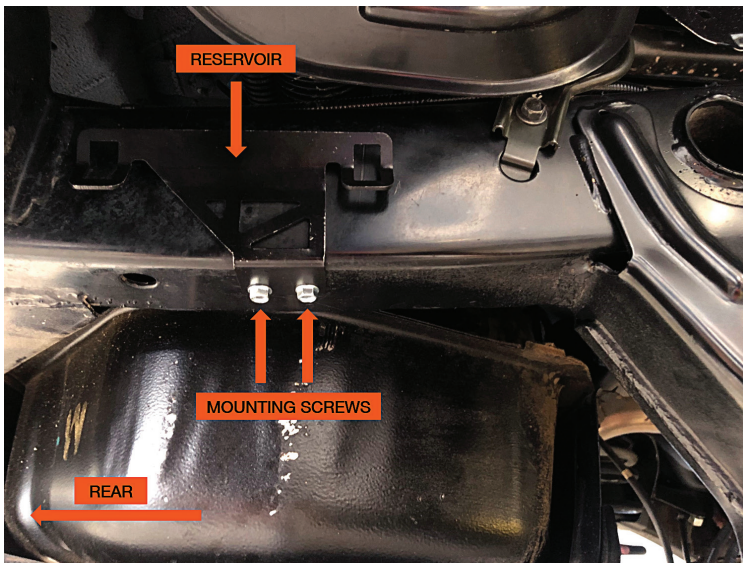

Figure 10: Right rear reservoir bracket orientation
- d. Secure the bracket using the supplied 1/4" self-tapping screws. Ensure proper orientation by checking that the reservoir mounting portion of the bracket is above the mounting holes (Figure 10).